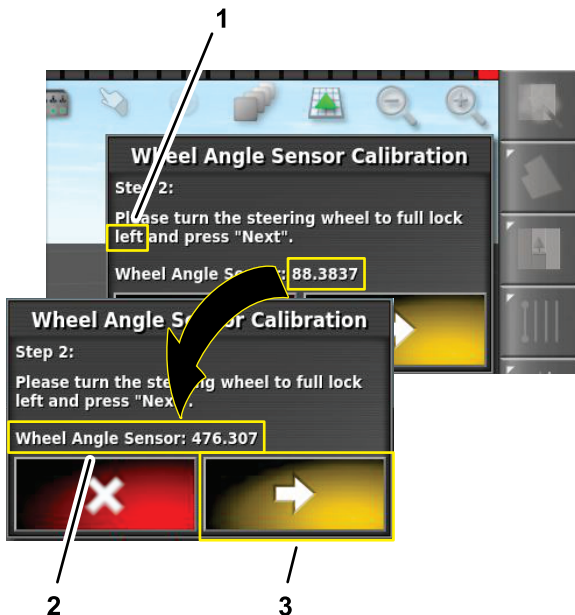

Figure 163
6. At step 2, fully turn the steering wheel to the left, stop, and press the next step icon (Figure 163).